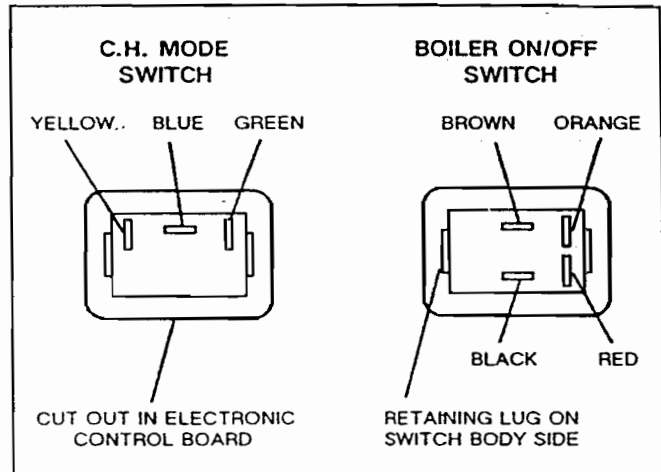

Fig. 27 VIEW FROM REAR OF CONTROL PANEL
12. C.H. MODE AND ON/OFF SWITCHES (see Fig. 27)
- f. Re-fit wires in correct positions (see Fig. 27)